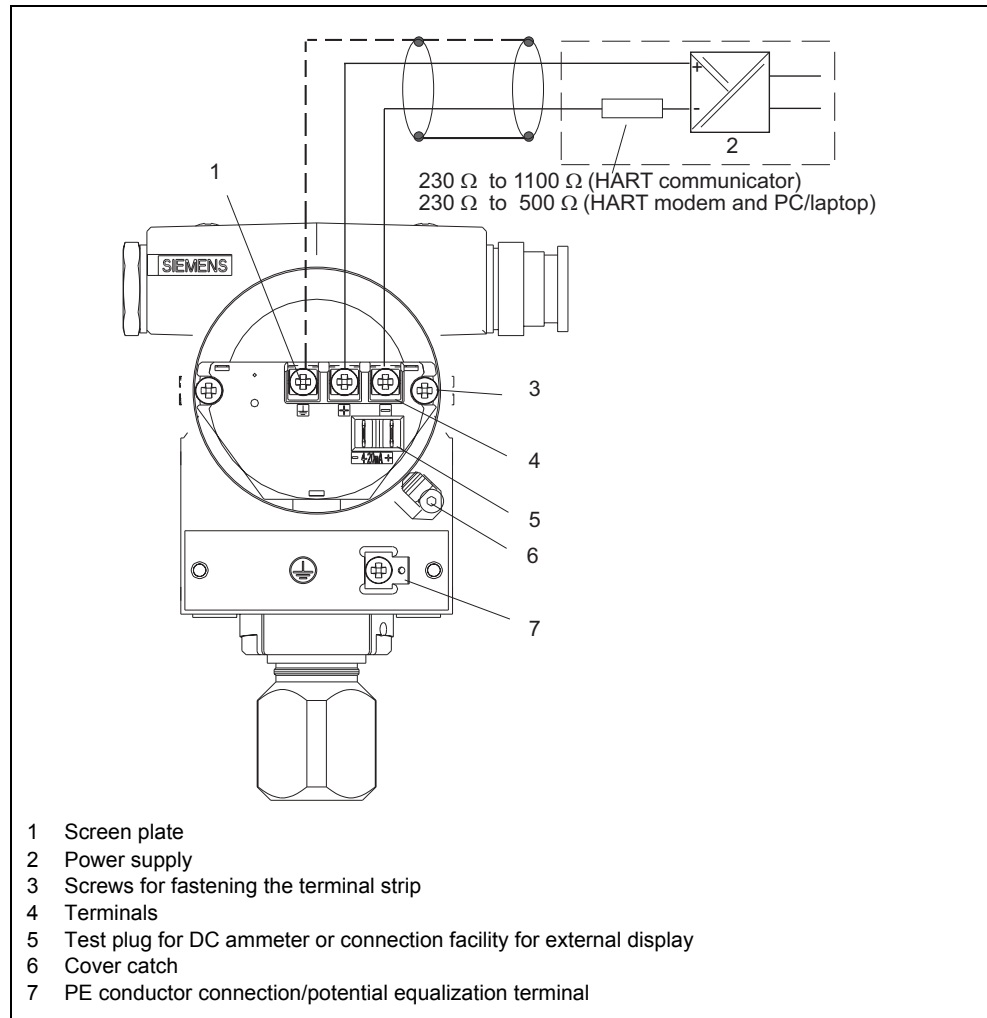

Figure 51 Electrical connection, schematic diagram
3. Connect the wires to the "+" and "-" terminals (Figure 51, pg. 93) and observe the polarity!